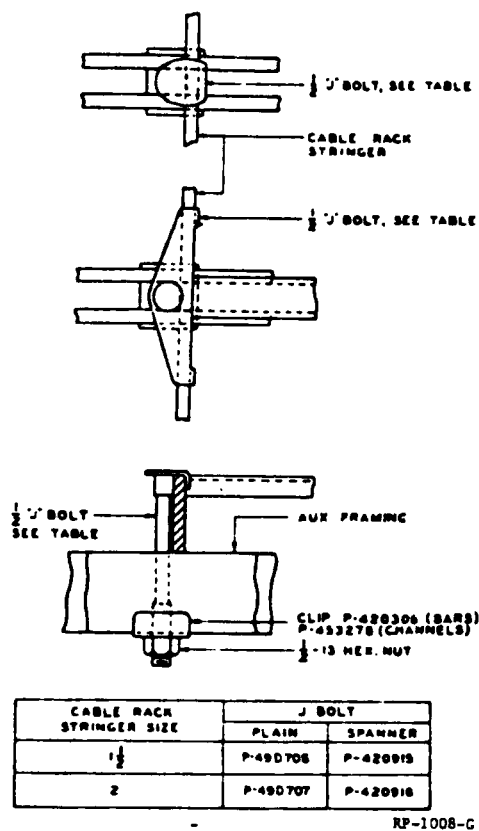
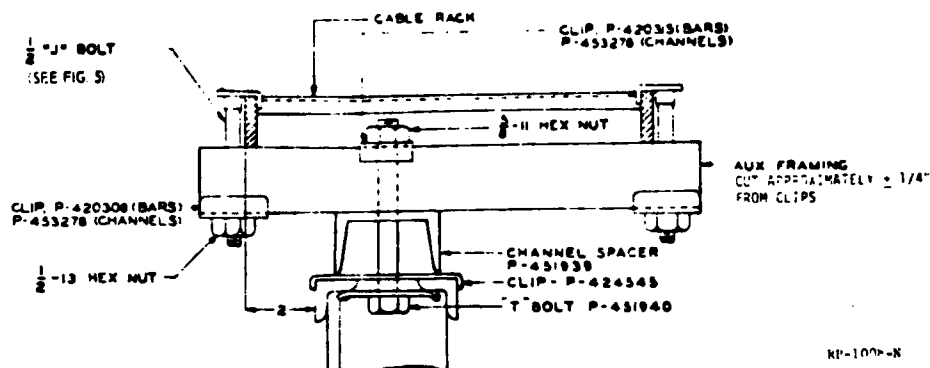

FIG. 5 AUXILIARY FRAMING FASTENED TO UNDER-SIDE OF CABLE RACK (PAR. 3.1)
FIG. 15A ISOLATED NO. 1 OR NO. 4 TOLL CROSSBAR FRAME SUPPORTED FROM ONE CABLE RACK - 11'-8\"
3.1 In general, high type auxiliary framing should be used for the support of isolated frames. However, isolated frames and frames that extend more than 2'-6" beyond auxiliary framing should be supported with short pairs of framing bars or channels from cable racks as shown in Figures 15A, 15D, 15E, 62D, 62E, 62H, 62J, 62L, 62M, and 62A. Refer to Figure 5 for method of fastening auxiliary framing to underside of cable rack. An isolated frame shall be supported at least at two points.
3.11 When short pieces of channel or framing bars are used for the support of frames, the bars or channels shall be cut so that the ends projecting to the outside of the cable rack stringers are approximately + 1/4" from the edges of the supporting saddle clips as shown in Figures 15A, 15D, 15E, 62D, and 62E. This would also apply to Figures 62H and 62J when short pieces of channel or bars are used instead of the regular auxiliary framing.
(BSP 800-614-155, FIG. 5)
- (1) To update BSP references.
- (2) To update Figures 15A, 15D, 15E, 62D, 62E, and 62F.